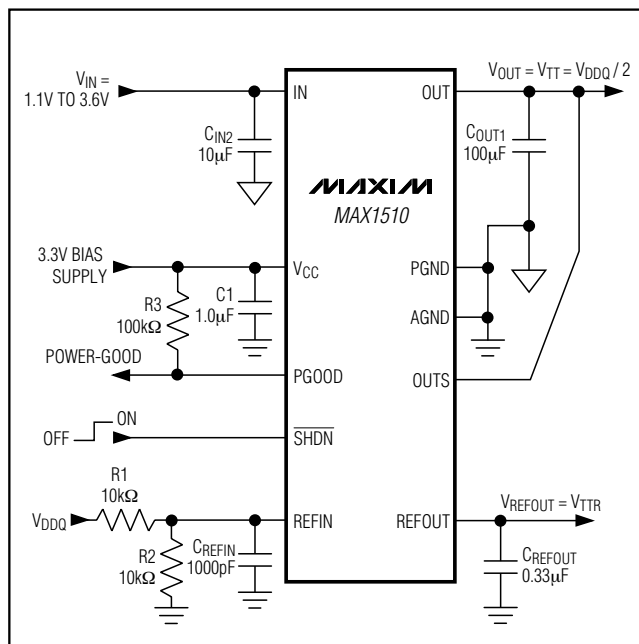

Figure 1. Standard Application Circuit
($V_{IN} = 1.8V$, $V_{CC} = 3.3V$, $V_{REFIN} = V_{OUTS} = 1.25V$, $\overline{SHDN} = V_{CC}$, circuit of Figure 1, $T_A = -40^\circ\text{C}$ to $+85^\circ\text{C}$, unless otherwise noted. Typical values are at $T_A = +25^\circ\text{C}$.) (Note 1)
($V_{IN} = 1.8V$, $V_{CC} = 3.3V$, $V_{REFIN} = V_{OUTS} = 1.25V$, $\overline{SHDN} = V_{CC}$, circuit of Figure 1, $T_A = -40^{\circ}C$ to $+85^{\circ}C$, unless otherwise noted. Typical values are at $T_A = +25^{\circ}C$.) (Note 1)
(Circuit of Figure 1. $T_A = +25^\circ\text{C}$, unless otherwise noted)
The MAX1510 is a low-voltage, low-dropout DDR termination linear regulator with an external bias supply input and a buffered reference output (see Figures 1 and 2). V_{CC} is powered by a 2.7V to 3.6V supply that is commonly available in laptop and desktop computers. The 3.3V bias supply drives the gate of the internal pass transistor, while a lower voltage input at the drain of the transistor (IN) is regulated to provide V_{OUT}. By using separate bias and power inputs, the MAX1510 can drive an n-channel high-side MOSFET and use a lower input voltage to provide better efficiency.
The MAX1510 regulates OUTS to the voltage set at REFIN, making the MAX1510 ideal for memory applications where the termination supply must track the supply voltage. Typically, REFIN is set by an external resistive voltage-divider connected to the memory supply (VDDQ) as shown in Figure 1.